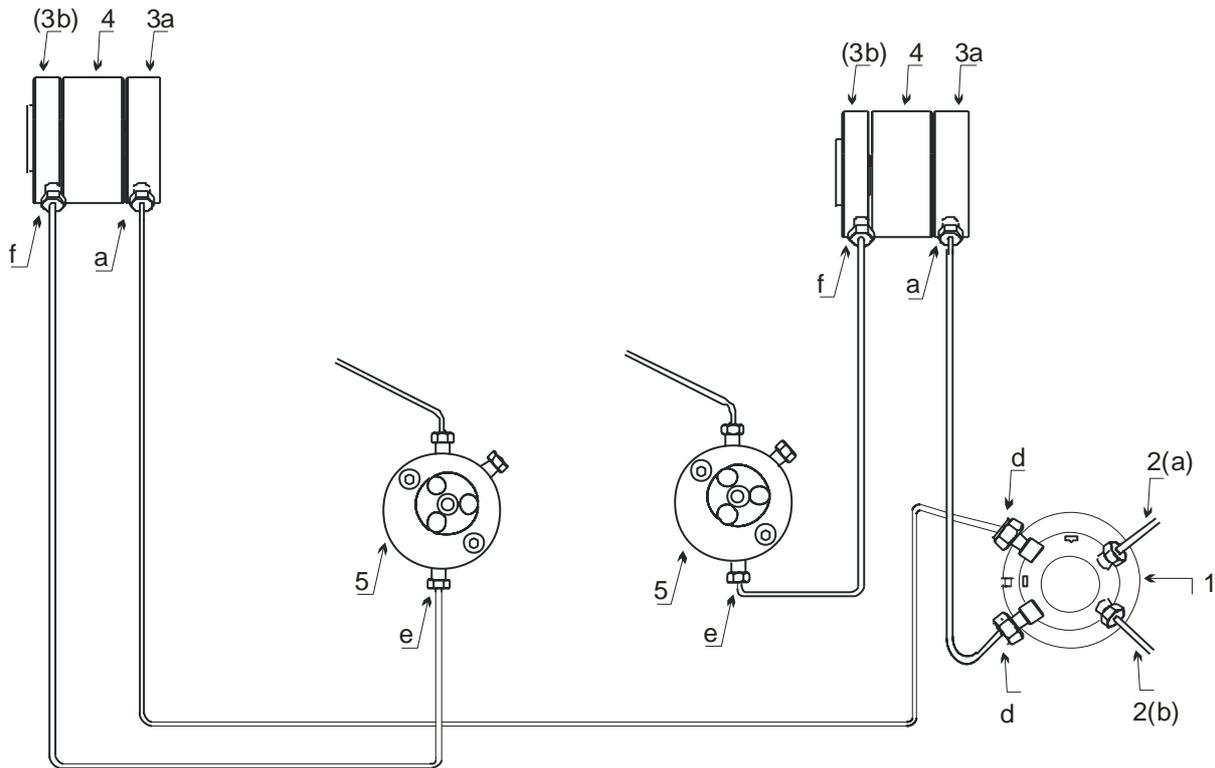

Fig. 68: Connections between pump head, mixing chamber, and purge block (P680A DGP-6)
- On the mixing chamber outlet, **loosen** the fitting screw of the capillary that connects the mixing chamber outlet to the purge block/outlet block inlet (→ Fig. 67 or Fig. 68, screw **a**). Do not remove the capillary on the mixing chamber outlet completely!
- On the purge block/outlet block inlet, **loosen** the fitting screw of the capillary that connects the mixing chamber outlet to the purge block/outlet block inlet (→ Fig. 67 or Fig. 68, screw **d**). Do not remove the capillary on the purge block/outlet block inlet completely!
- Tighten the capillary fitting screws on the mixing chamber outlet and on the purge block/outlet block inlet (→ Fig. 67 or Fig. 68, screws **a** and **d**).